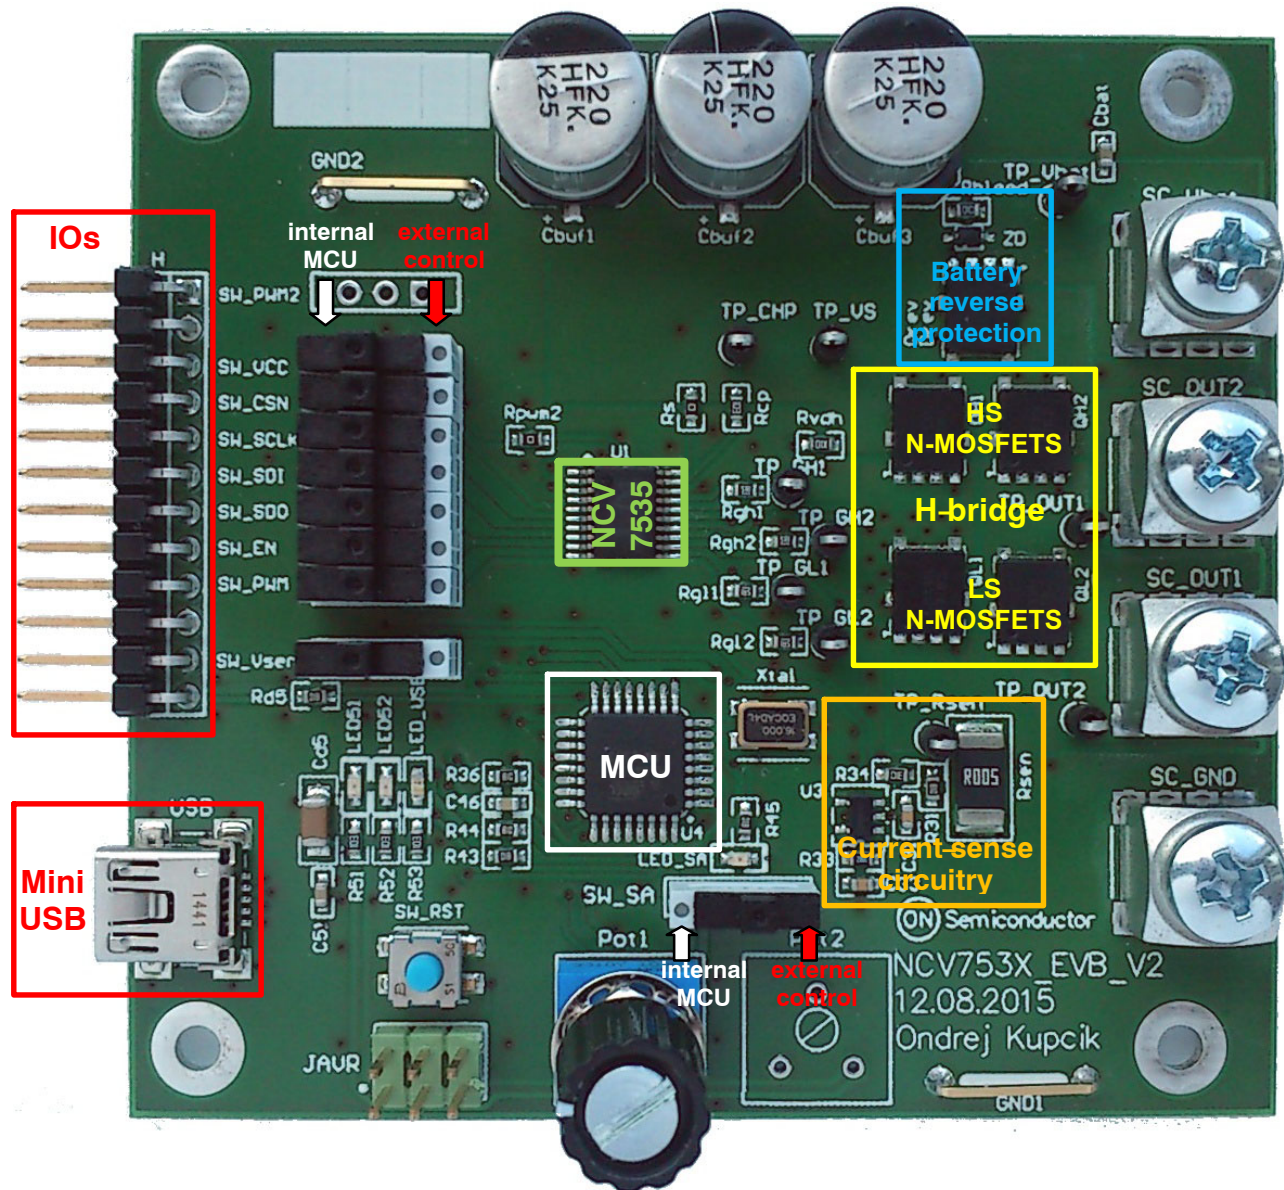

Figure 3. NCV7535 Evaluation Board Picture, Top Side
- ♦ All the slide switches (incl. SW\_SA) have to be set to the position as shown in Figure 3.
- ♦ All the switches (incl. SW\_SA) have to be set to the position as shown in Figure 3.
1. Move slide switches “SW\_xx” to the left position (see Figure 3.)